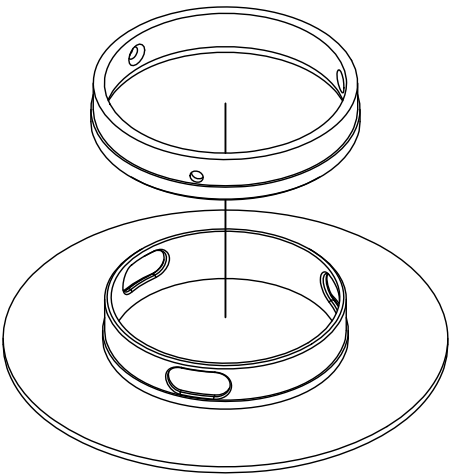

Figure 1.
1. Attach the provided millwork mounting ring to the install tool ensuring that the holes on the mounting ring align with the slots on the install tool. (Figure 1.)
2. Use a hand held screw driver to install the three (3) provided screws into counter sunk mounting ring holes.